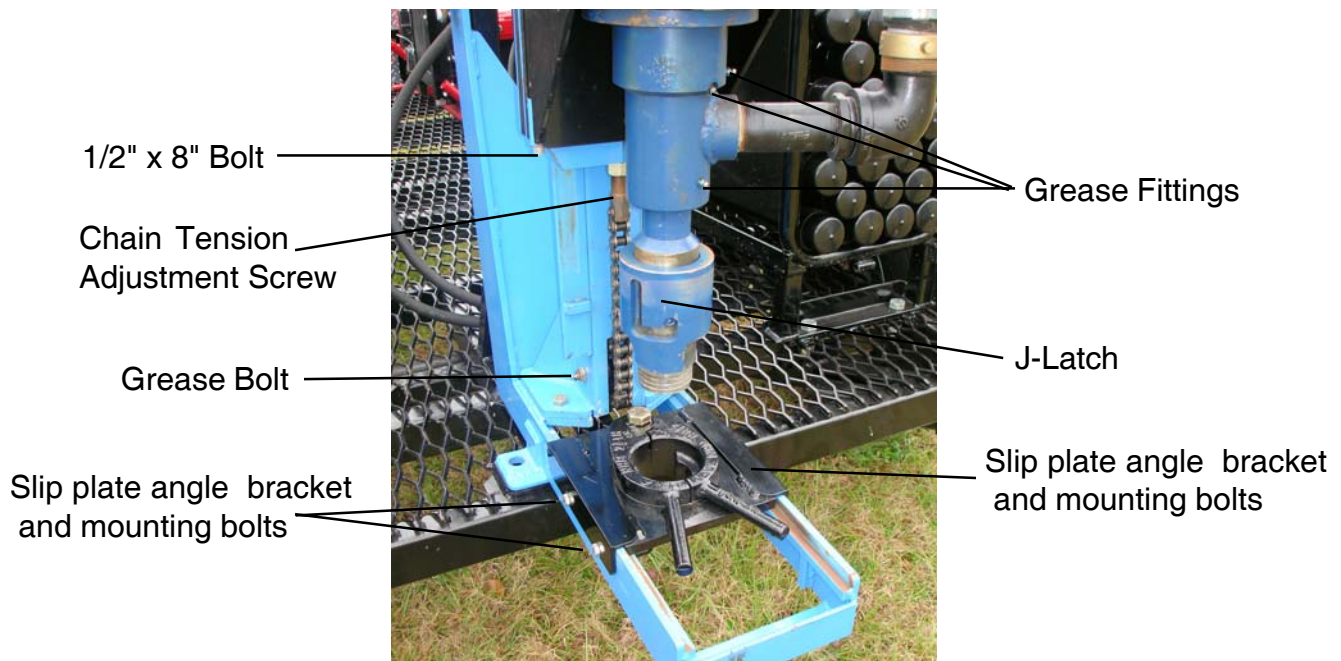

Figure 1
The 4 grease bolts should be greased every 8 hours of operation using the trecommended grease. Apply grease through the grease fittings which are accessible from the side of the mast, top and bottom, and the side of the draw-works drive bracket. See Figure 1.
The drive chain should be checked for tightness every 4 hours of operation and lubricated if necessary. To adjust, open the Rotary Drive assembly by removing one of the 1/2" x 8" bolts, then swing the drive head aside. While holding the adjustment screw from turning, loosen the locking nut. See Figure 1. Then tighten the adjustment nut until the chain has very little slack. If the slack cannot be taken up completely, remove a link from the chain. After adjustment is made, tighten both the adjusting and locking nuts. If the chain becomes dry, lubricate the chain with a heavy weight oil or grease.
IMPORTANT: Do not over-grease. Do not over-pressurize. Apply grease to all three (3) grease fittings using a grease gun. See Figure 1. Pump until resistance is felt, then remove the grease gun. **Release pressure from the swivel and packing by depressing the ball check in all three (3) grease fittings with a sharp object such as a screwdriver blade.**
The slip plate is held in position by two side angle brackets that are mounted to the breakout table base. These angles have slotted holes to allow for adjustment to center the slip to the swivel stem. See Figure 1.